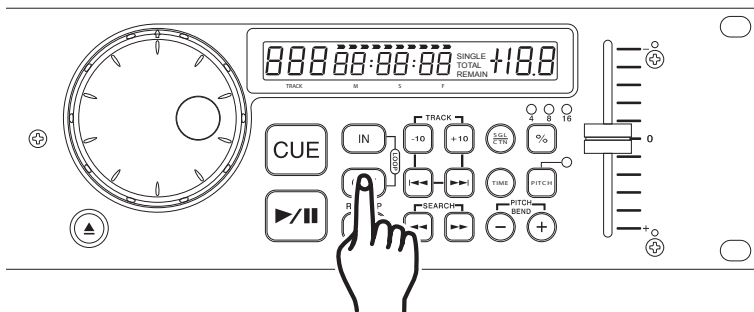

Figure 24
3) Press the OUT BUTTON (15) to set the ending point for your Loop (Figure 24). The OUT and IN BUTTON'S will stay lit indicating a Loop is playing. Press the OUT BUTTON again to stop the Loop.
4) Press the RELOOP BUTTON (14) to reactivate the loop. Press the OUT BUTTON (15) to deactivate the loop.